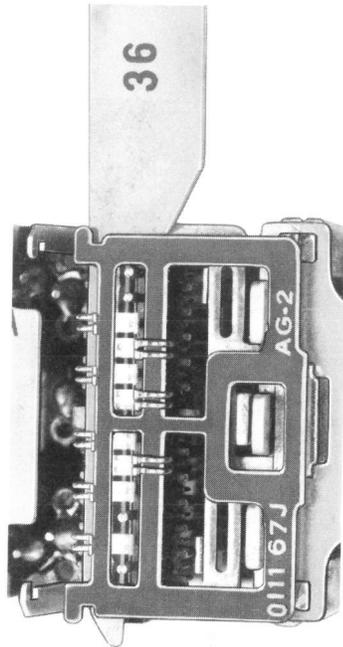

Fig. 6—Detail 36 Lifter in Place
3.11 On the top left side of the relay, with the taper of detail 36 lifter facing to the left, place the lifter behind the card inserting it between the left movable twin contact springs and the fixed single contact springs as shown in Fig. 6. Push the lifter down until all the movable contacts are lifted away from the fixed contacts.